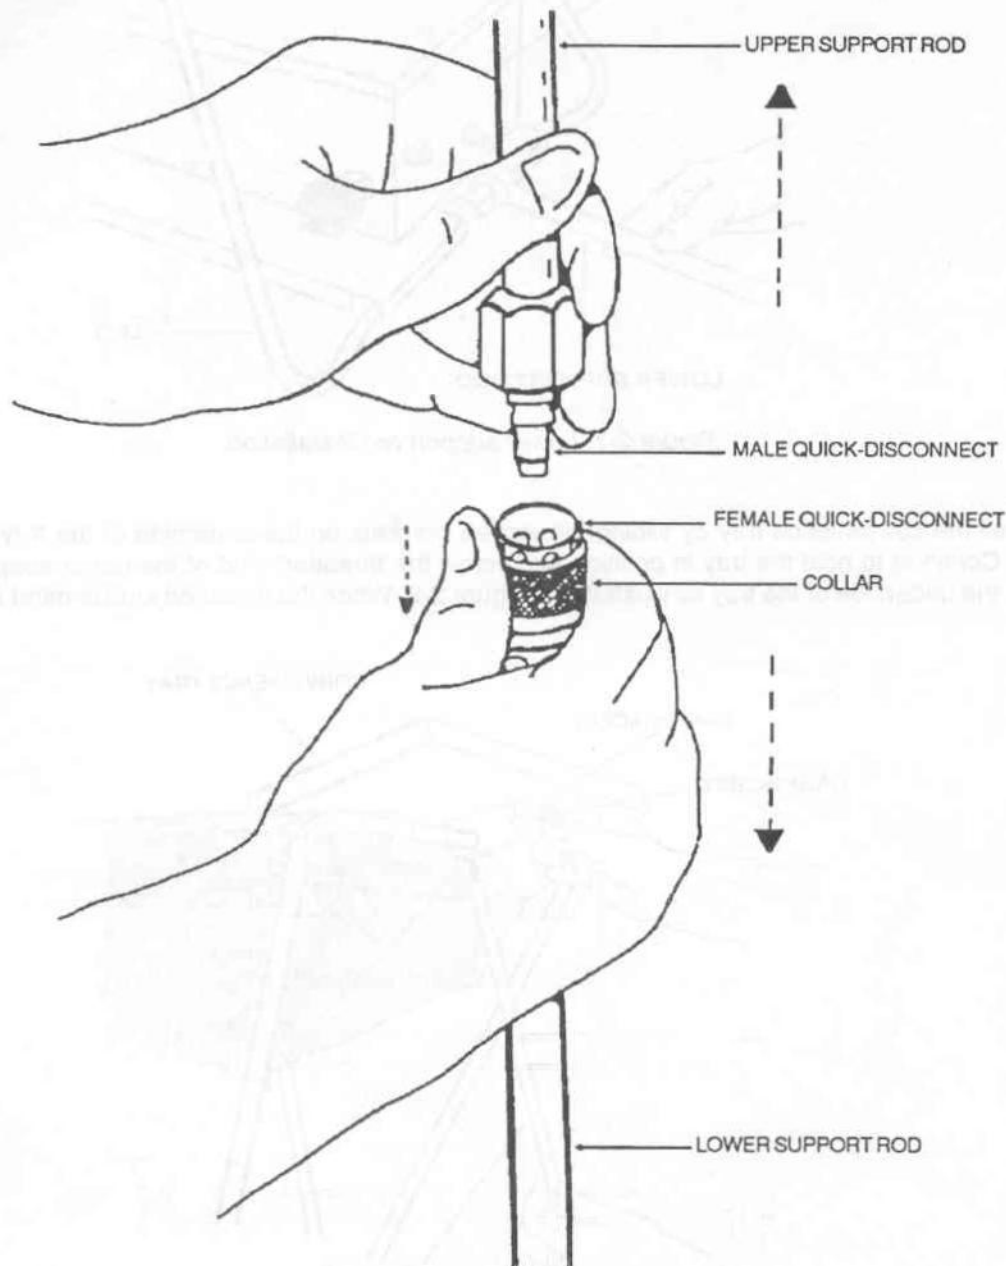

Figure 2-9. Upper and lower support rods connection.
f. Lift the lower support rod and connect it to the upper support rod by pulling the female quick-disconnect collar downward and inserting the male quick-disconnect from the upper support rod. Refer to figure 2-9.